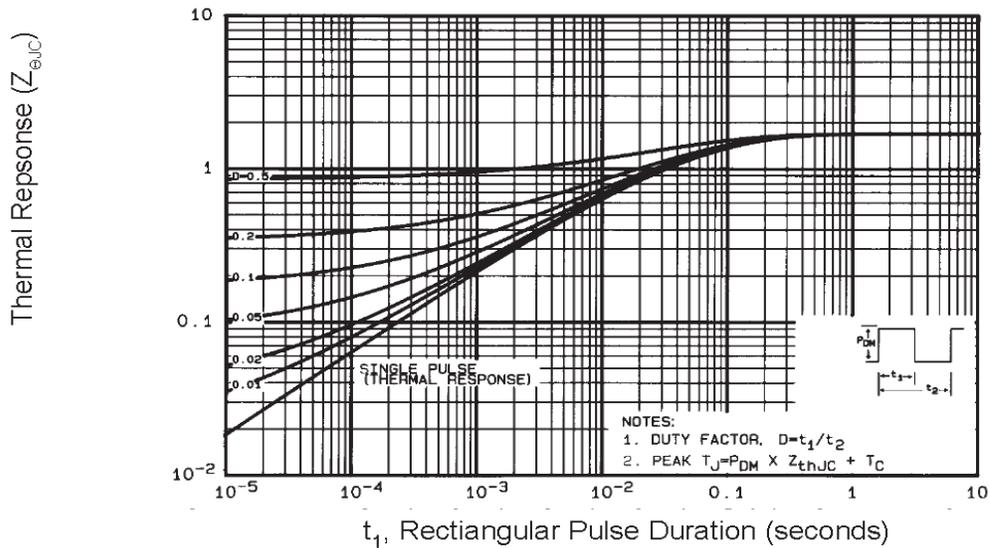

Fig. 11 Maximum Effective Transient Thermal Impedance, Junction-to-Case
① Repetitive rating; pulse width limited by max. junction temperature. (See fig. 11)
③ $I_{SD} \leq 30A, di/dt \leq 200A/\mu s, V_{DD} \leq V_{(BR)DSS}, T_J \leq 175^\circ\text{C}$